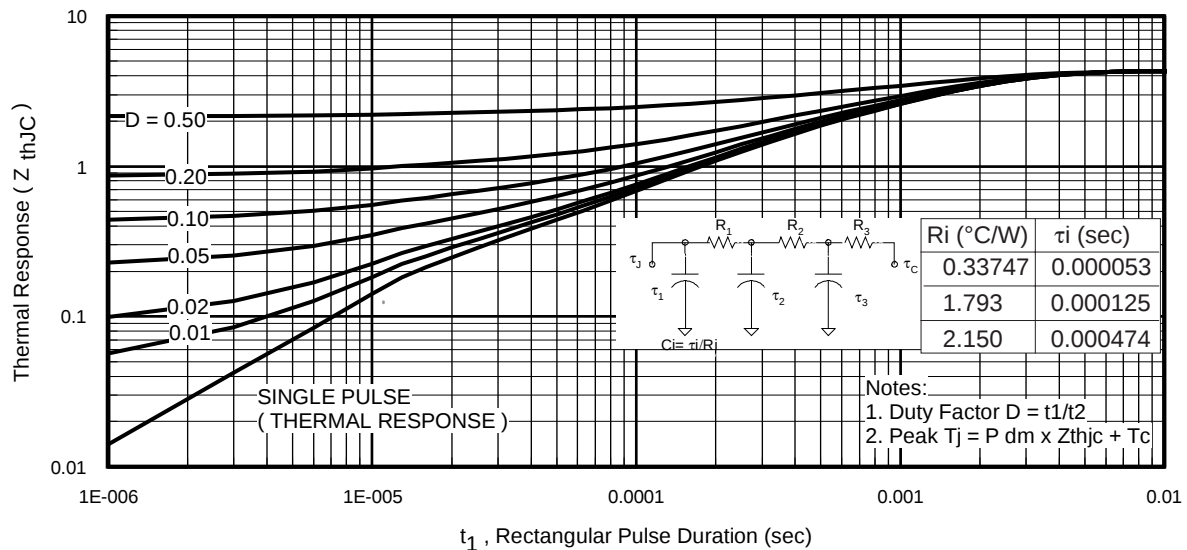
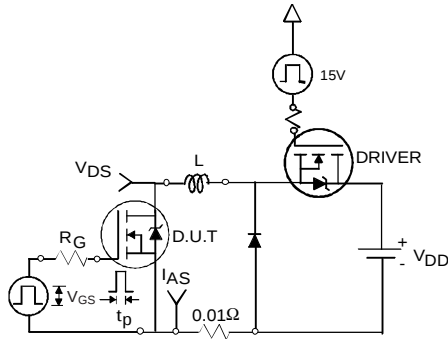

Fig 11. Maximum Effective Transient Thermal Impedance, Junction-to-Case
Fig 12a. Unclamped Inductive Test Circuit
3. Equation below based on circuit and waveforms shown in Figures 12a, 12b.
$Z_{thJC}(D, t_{av})$ = Transient thermal resistance, see figure 11)
- ① Repetitive rating; pulse width limited by max. junction temperature. (See fig. 11).
- ② Limited by T_{Jmax} , starting $T_J = 25^\circ\text{C}$, $L = 1.29\text{mH}$, $R_G = 25\Omega$, $I_{AS} = 5.2\text{A}$, $V_{GS} = 10\text{V}$. Part not recommended for use above this value.
- ③ Pulse width $\leq 1.0\text{ms}$; duty cycle $\leq 2\%$.
- ④ C_{oss} eff. is a fixed capacitance that gives the same charging time as C_{oss} while V_{DS} is rising from 0 to 80% V_{DSS} .
- ⑤ Limited by T_{Jmax} , see Fig.12a, 12b, 15, 16 for typical repetitive avalanche performance.
- ⑥ This value determined from sample failure population. 100% tested to this value in production.
- ⑦ When mounted on 1" square PCB (FR-4 or G-10 Material). For recommended footprint and soldering techniques refer to application note #AN-994